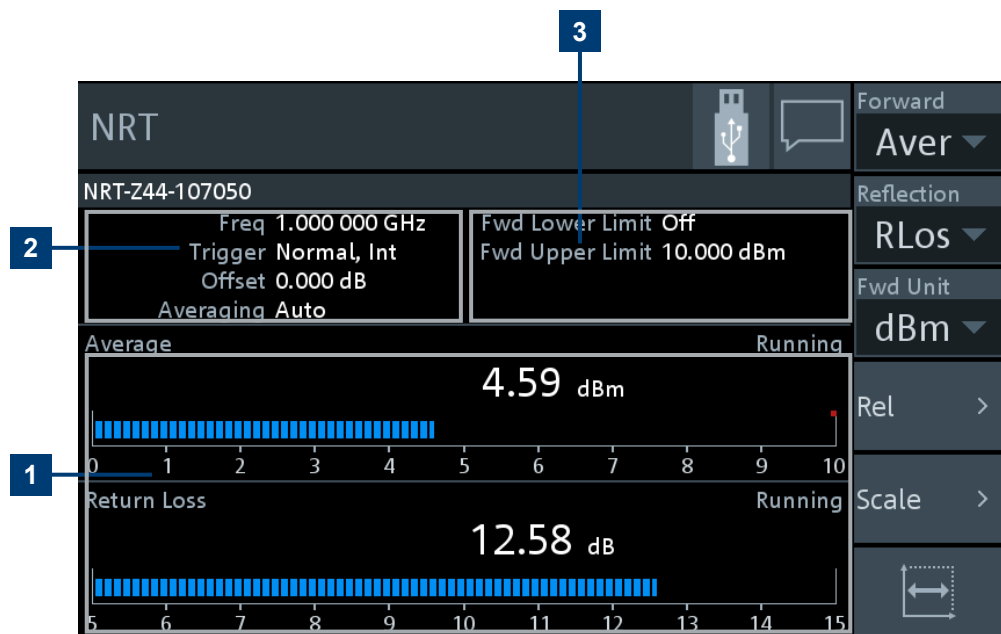

Figure 4-2: Layout of the measurement pane
- ▶ Tap the *displayed settings*, (1) in Figure 4-2, to access the sensor settings.
- ▶ Tap the *displayed limit values*, (2) in Figure 4-2, to change limit values.
- ▶ Tap the *displayed measurement value or graph*, (3) in Figure 4-2, to configure the measurement, the display and the sensor.